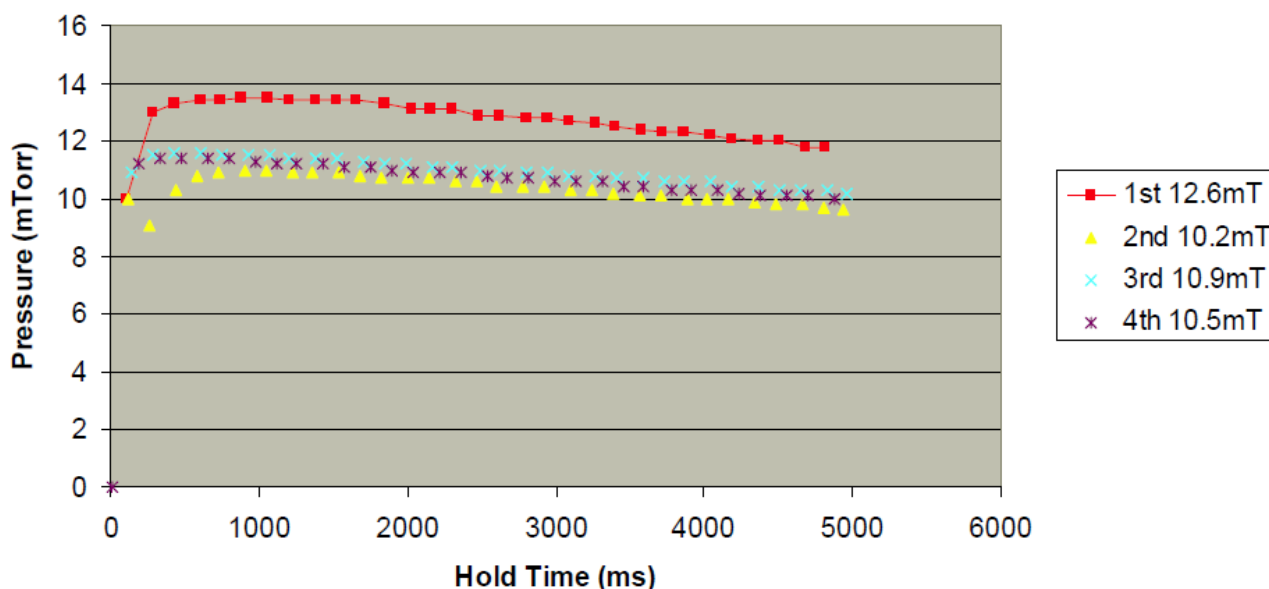

Figure 5-35 Typical results for the precursor usage monitoring recipe
- 3 Check that the pressure values measured for each of the last three recipe steps are repeatable. Ignore the pressure value measured during the first step as this will generally be higher than the other three (see Figure 5-35).